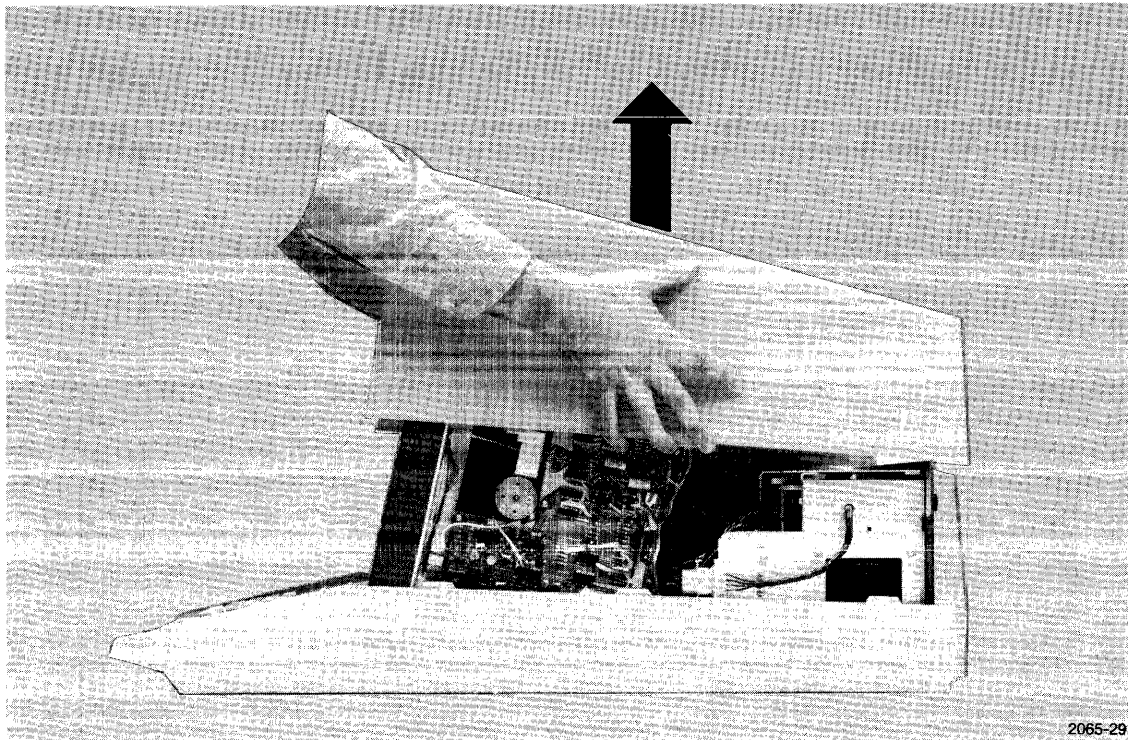

Fig. 3-11. Cover removal.
3. The cover can then be removed as shown in Fig. 3-11. To replace the cover, the rear corners are seated first, then the front of the cover is lowered.